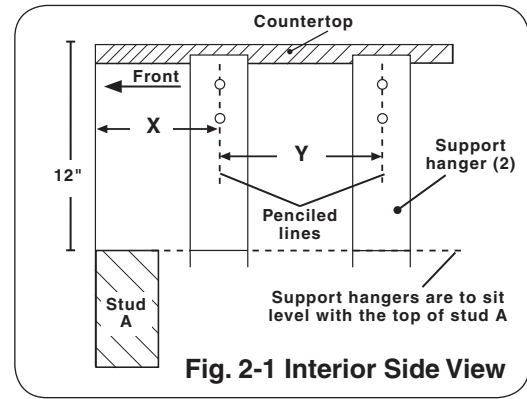
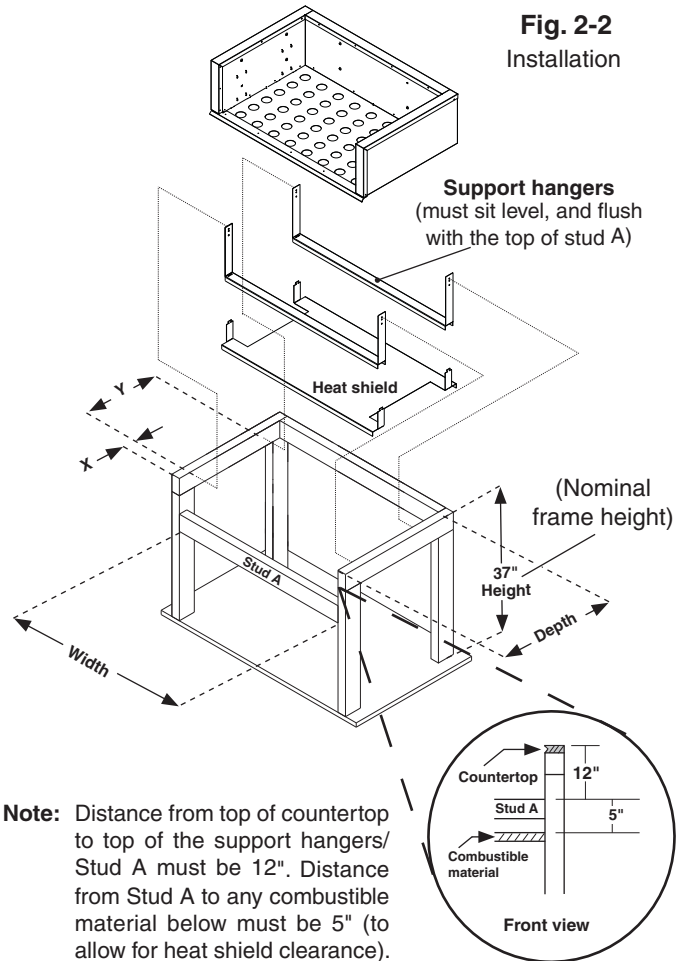

Fig. 2-1 Interior Side View
Fig. 2-2
The insulating liner kit includes the pre-assembled liner, two support hangers, and a heat shield. Liner cutout dimensions are given in Table 1. A nominal $\frac{1}{16}$ " gap around the back and sides of the liner is recommended for ease of installation. A minimum of 5" from combustible material is required directly below the top of the support hangers/Stud A, to allow for clearance of the heat shield (See Fig. 2-2). If a complete combustible shelf is installed beneath the heatshield, it must contain two ventilation cutouts. The cutouts must be located directly below the right hand and left hand ends of the heatshield. Reference Table 2 for dimensions. If the countertop thickness exceeds 2", new screw holes must be made in the support hangers.
† See Fig. 2-1 for hanger setback detail
Step 1: On the inside of the grill opening, pencil in a vertical line X" from the front of the enclosure. Then, pencil in a second line, Y" (back) from the first line. (**See Table 1 and Fig. 2-1 for dimensions**). Do the same on the opposite side as well.
Note: The distance between lines 1 and 2 must be Y" to allow for proper alignment and installation of the heat shield with the support hangers (see Fig. 2-1 & Fig. 2-2).
Step 2: Align the top of the support hangers level and flush with the opening 12" down from the countertop (i.e., the top of stud A). Line up hanger holes with your penciled lines (see Fig. 2-1 & Fig. 2-2) and screw into position.